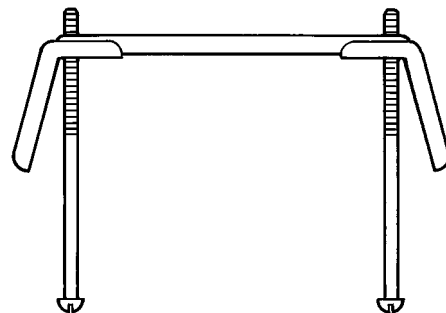

Fig. 3 — Toggle Bolt Assembly for Mounting Applications Without Junction Box
- For mounting applications without a junction box, use toggle bolt assembly as shown in Fig. 3. Package 37HS900019 contains this toggle bolt assembly.